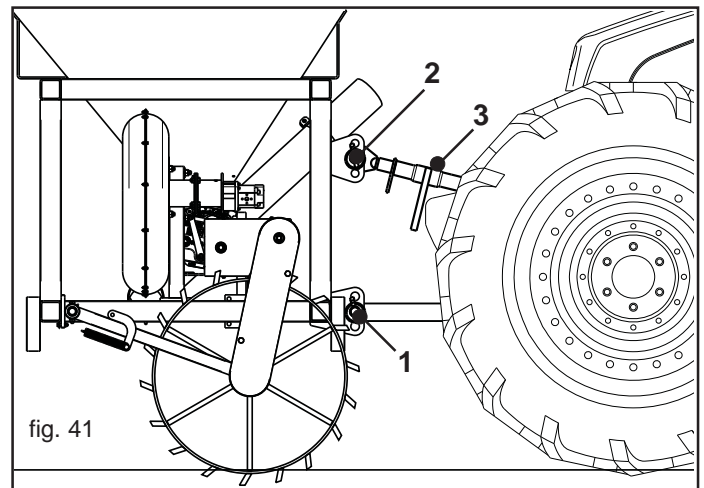
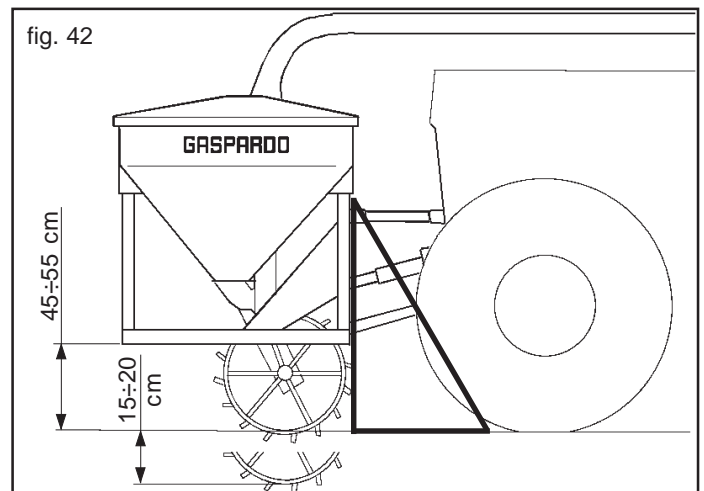

fig. 41
fig. 42
- 1) Hook the lifter bars onto the pins provided (1, Fig. 41) Block with the snap split pins. Hook the chains to the lifting bars
- 2) Connect the third upper point (2, Fig. 41); the pin will be blocked with the appropriate split pin; use the adjusting tierod (3, Fig. 41) to keep the equipment perpendicular to the ground (Fig. 42).
- 5) Raise the front machinery and remove the feet. In order to guarantee the rotation of the transmission wheel, adjust the working height of the machinery from the ground (45÷55 cm Fig. 42). This distance must remain constant during operation.
- 6) In working conditions, ensure that the driving wheel adheres to the ground. Use the chain rings (C), shown in Figure 51, to set a travel of about 15 to 20 cm (Fig. 42).